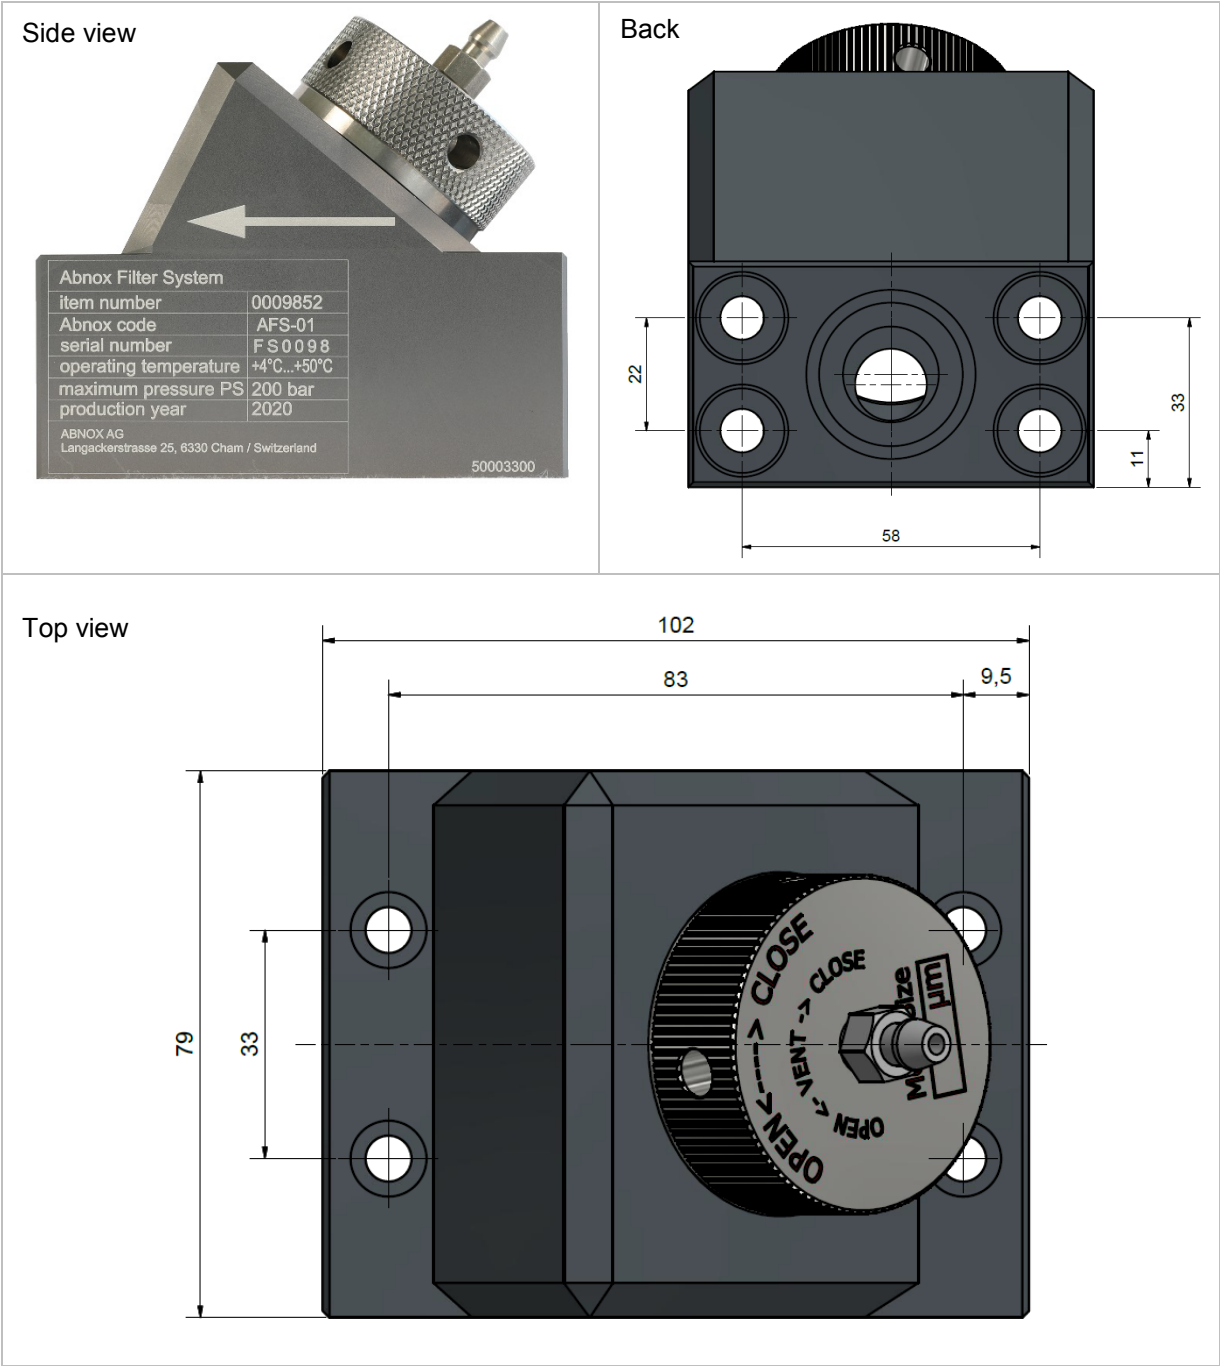

Figure 5 – Dimensions of the AFS
- ▶ Please refer to figure 5 for the respective dimensions when mounting the AFS.